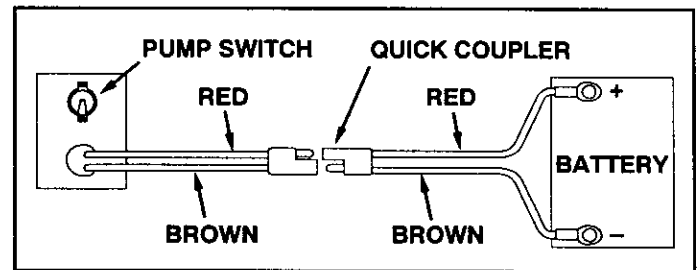

FIGURE 10
- Attach the sprayer to the tractor hitch and connect the wiring to the tractor battery. The red wire must be connected to the positive post on the battery or to the "HOT" connection on a tractor switch or ammeter. The brown wire may be grounded or connected to the negative battery post. See figures 10 and 11.